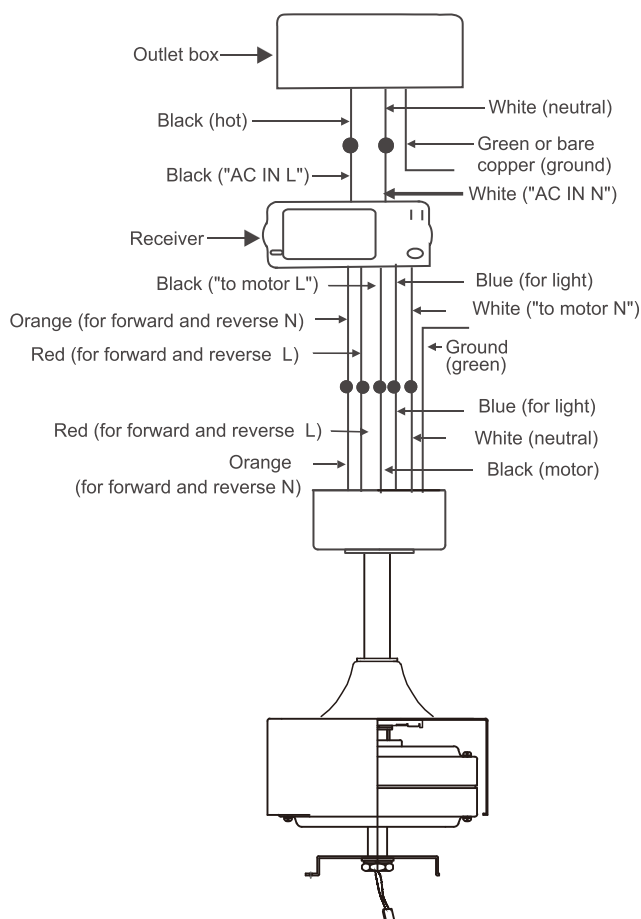

Fig 10
Step 3. Receiver to Supply Wires Electrical Connections: (Fig. 10) Connect the black (load) wire from the ceiling outlet box to the black wire marked "AC in L" on the receiver. Connect the white (neutral) wire from the ceiling outlet box to the white wire marked "AC in N" on the receiver. Secure each set of electrical connections with the plastic wire nuts provided in the parts bag.
Step 2. Slide the canopy up to the mounting bracket and place one of the key hole slots over the mounting screw on the mounting bracket. Rotate the canopy until the screw head locks in place at the narrow section of the key hole. See figure 10.